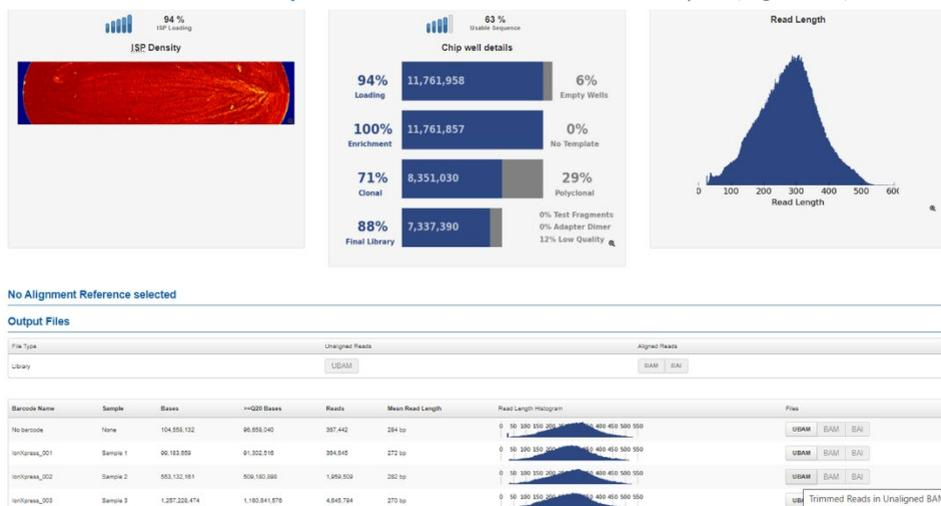

Figure 23. Torrent Browser report page and output files.
1. Upon completion of the sequencing run, navigate to the report page on the Torrent Browser. Locate the **Output Files** section near the end of the report (Figure 23).